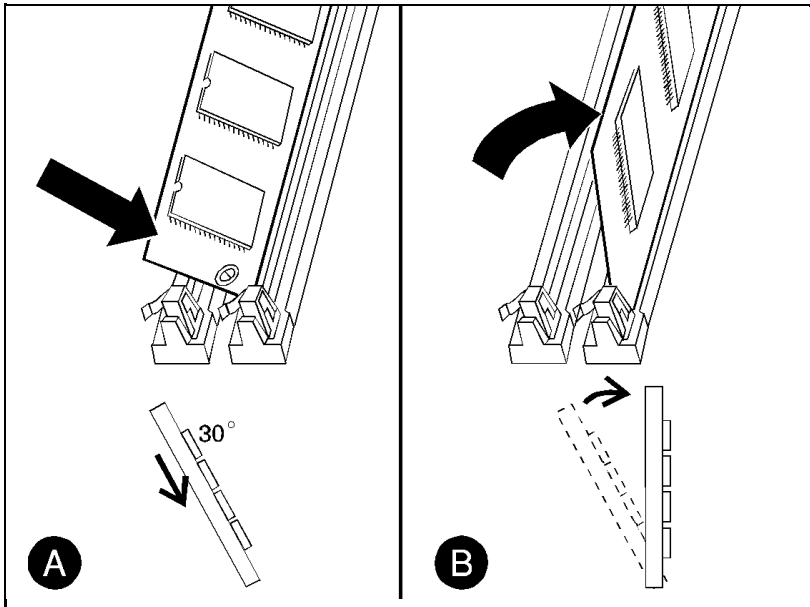

Figure 3-25 **Installing the SIMM Board**
- 3** Hold the SIMM board at a 30-degree angle to the slot and push the edge of the board evenly and firmly into the slot (see Figure 3-25 callout (A)).
- 4** Rotate the SIMM board to the right until the board “clicks” into the metal locking tabs, securing the board into place (see Figure 3-25 callout (B)).